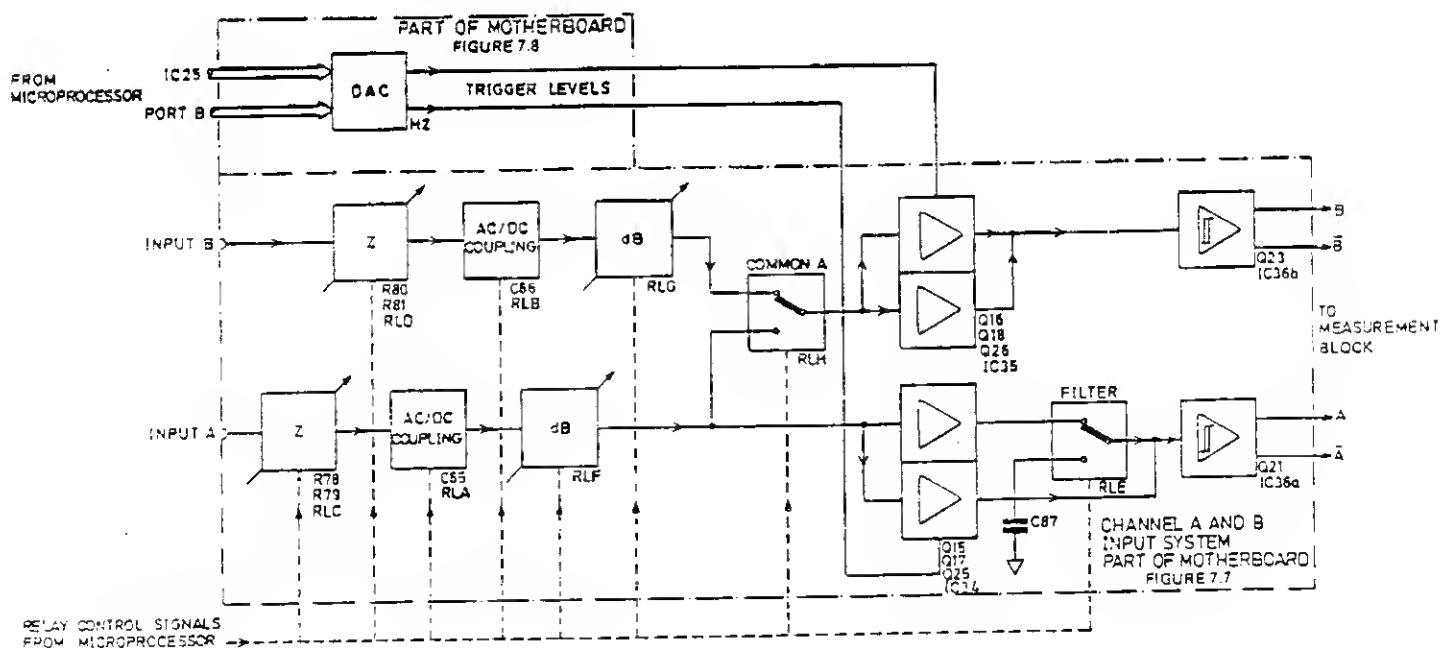

Figure 5.2 - Channel A/B Block Diagram
5.3.1.1.1 Channel A/B block processes the signals applied at the respective A/B inputs to produce differential pairs of signals which are fed to the measurement block. A block diagram is shown in Figure 5.2.